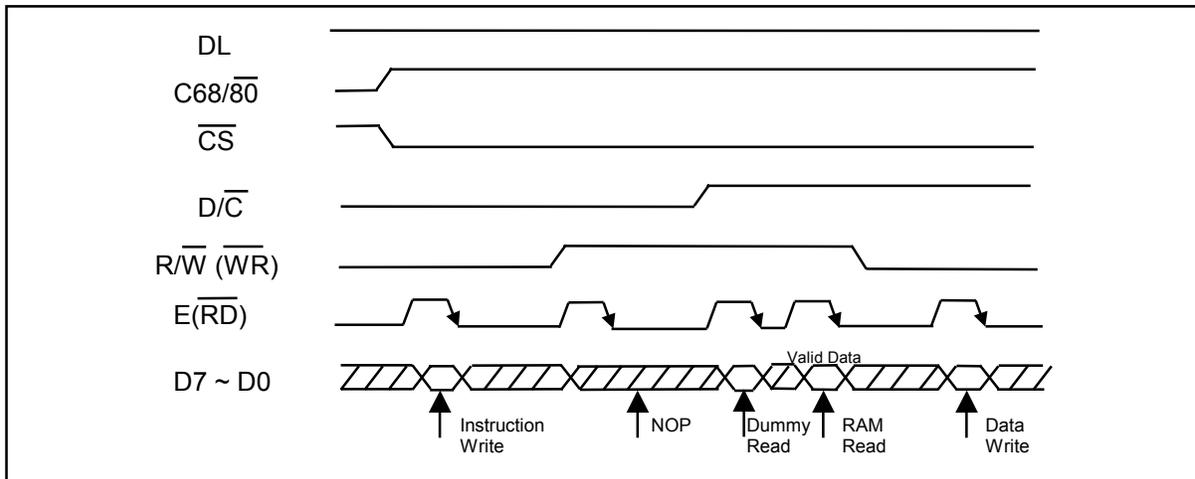

Figure 4 - Timing Diagram of 8-bit Parallel Bus Mode Data Transfer (6800 MPU Mode)
In order to match the operating frequency of display RAM with that of the microprocessor, some pipeline processings are internally performed which require the insertion of a dummy read before the first actual display data read. This is shown in Figure 4 below. The dummy read make the address counter (AC) increased by 1. So it is recommended to set address again before writing. The consecutive read after the dummy read are also the valid data. The instruction read cycle is not supported and it is regarded as a no operation cycle.